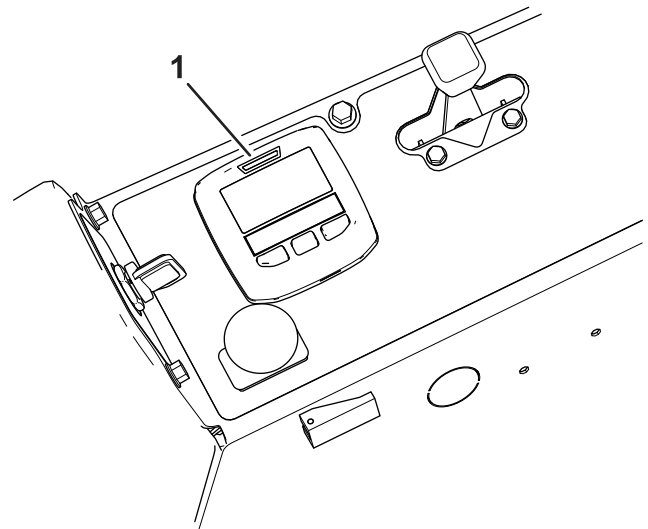

Figure 12
B. InfoCenter LED light (Figure 12):
Note: The LED light at the top of the display screen (Figure 12) blinks as the sensor calibrates.
The light and alarm indicates the severity of the slope (Figure 12):